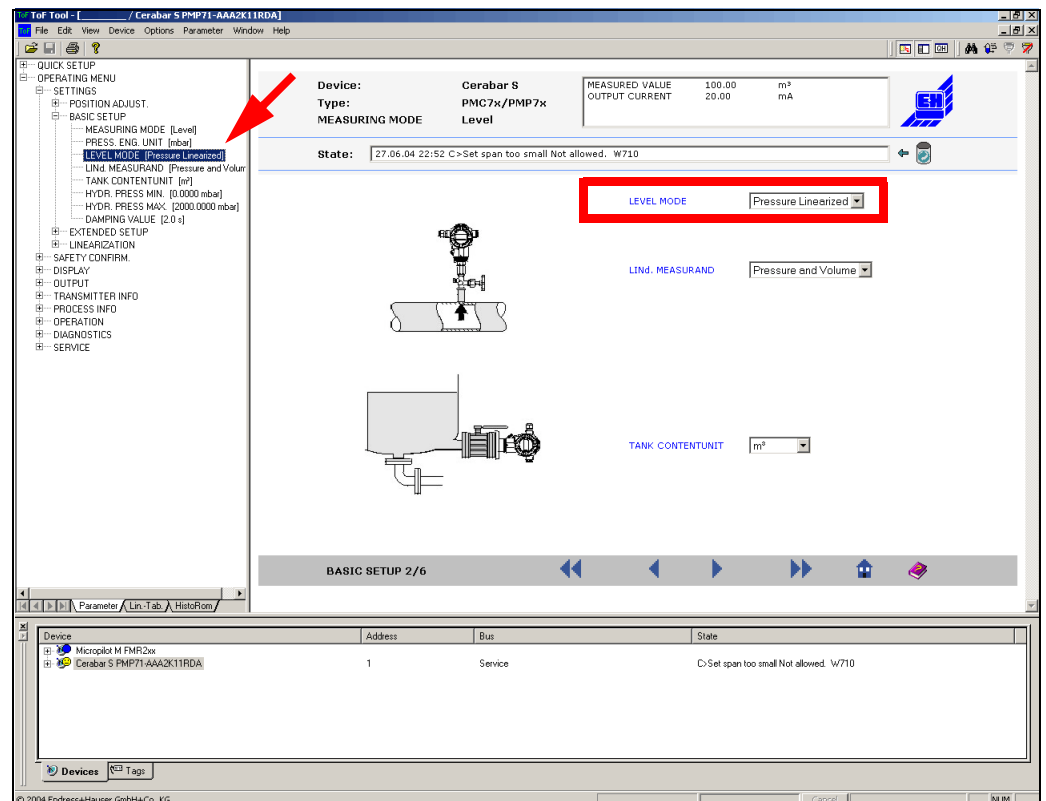

Fig. 41: Dialog window - parameter
- Selection and calculation form for the tank shape (see Fig.41)